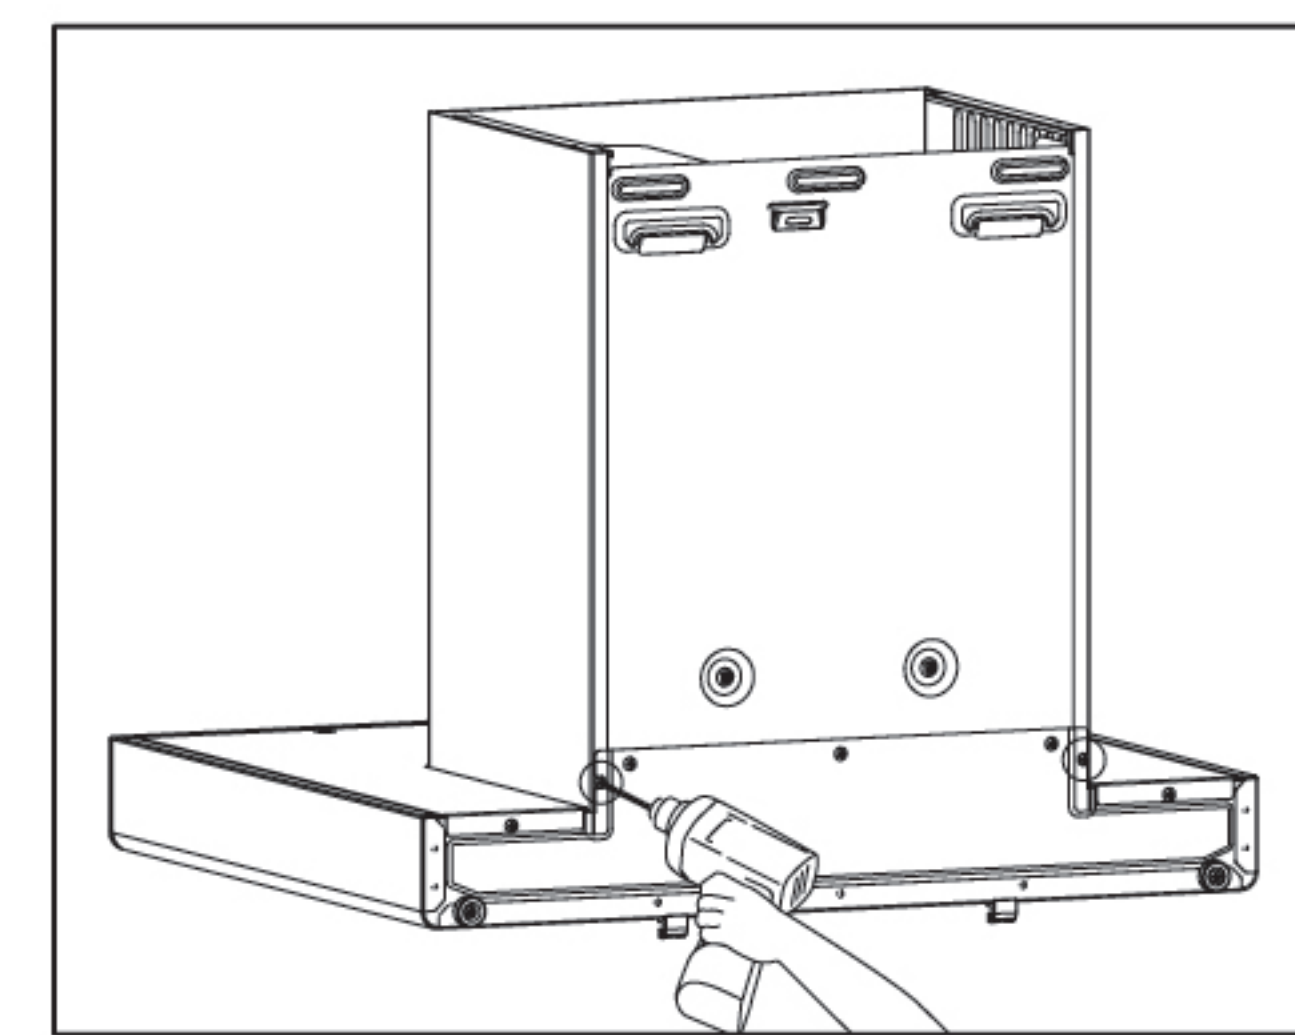

fig8
- Move the whole machine out of the packing box, unscrew two screws used for fixing the fan cover on the back of the range hood, and remove the fan cover and the decorative cover. (fig8)